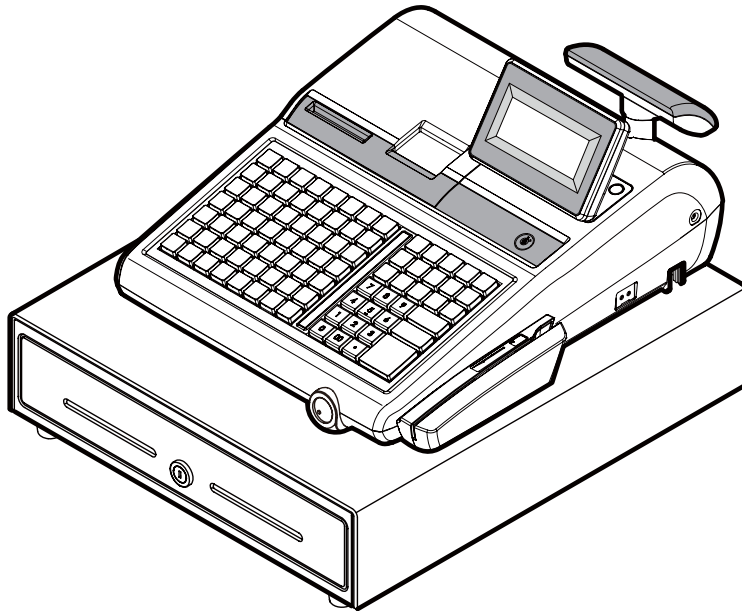

Figure 3-8 MSR Installation (3)
1. Figure 3-8 shows the MSR Assembly is in position